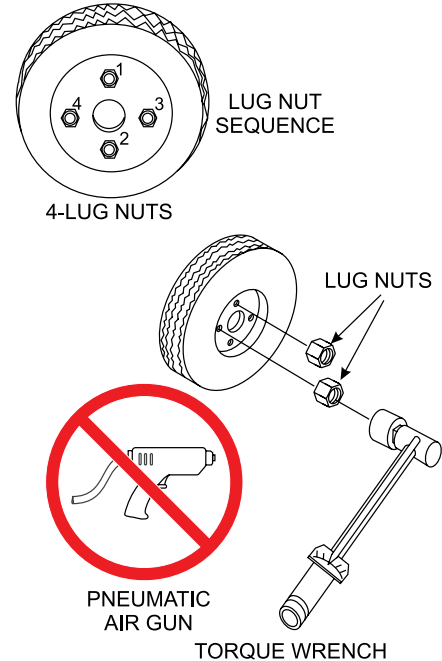

Figure 48. Lug Nut Torque Sequence
2. Torque all lug nuts (Figure 48) in sequence. **DO NOT** torque the wheel lug nuts all the way down. Tighten each lug nut in 3 separate passes as defined by Table 7.